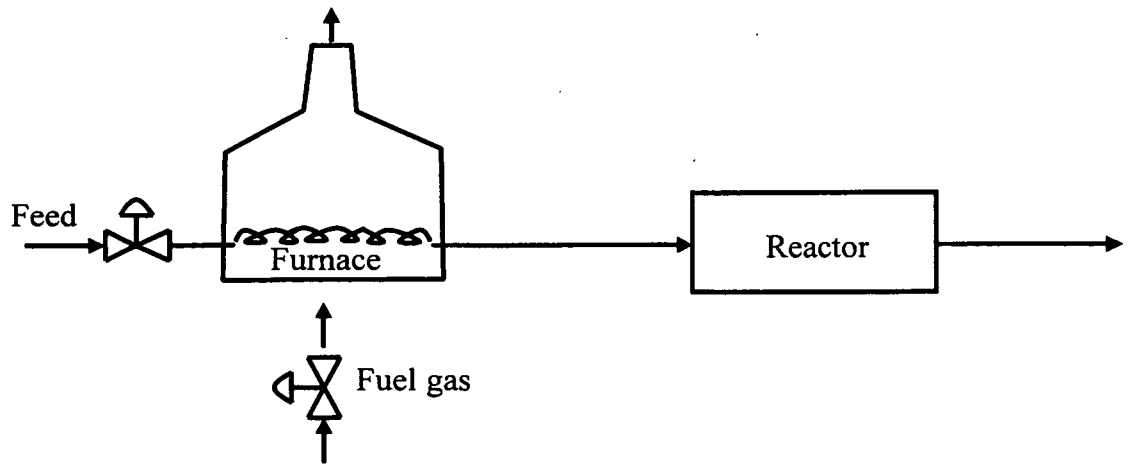

Figure 5. Furnace heating feed to adiabatic tubular reactor
- i) Vapour feed to an adiabatic tubular reactor is heated to about 370°C in a furnace, as illustrated in Figure 5. The reaction in the reactor is endothermic. The exit temperature of gas leaving the reactor is to be controlled at 310°C. Draw an instrumentation and control diagram that accomplishes the following objectives: